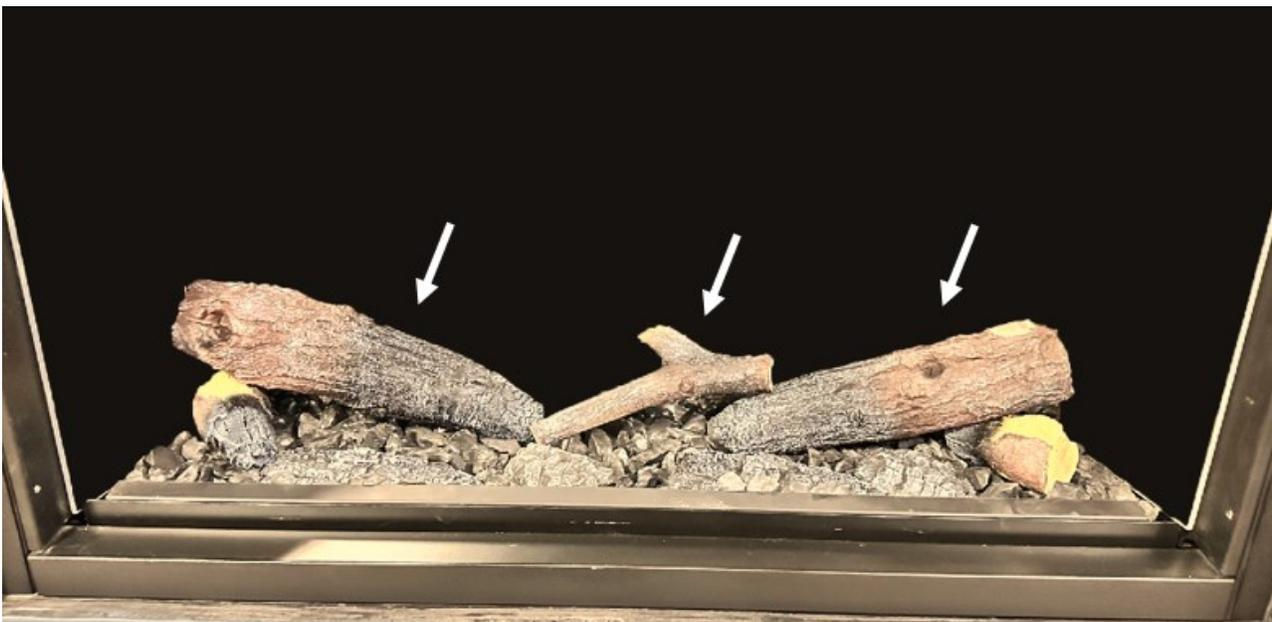

Figure 4.5 - Completed log set.
- Figure 4.5 shows the remaining logs installed. The two large side logs are semi-transparent so the flames glow through.